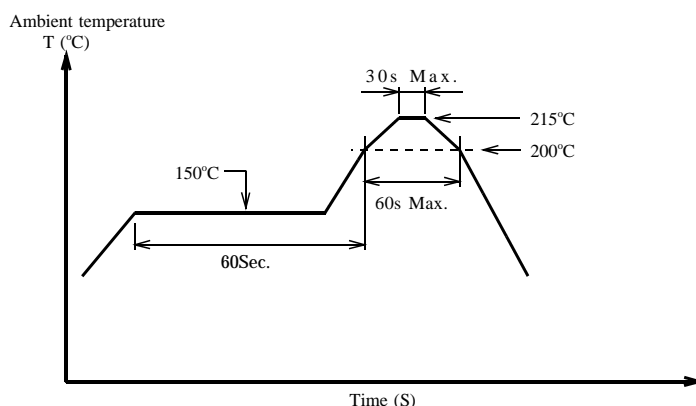

Fig. 5-2 (Temperature Profile)
(1) The recommended solvent is Fluorinate FC-70 or the equivalent.
(2) The ambient temperature must be 215°C for no longer than 30 seconds or 200°C for no longer than 60 seconds.
(3) A recommended temperature profile for V.P.S. is shown in Fig. 5-2.